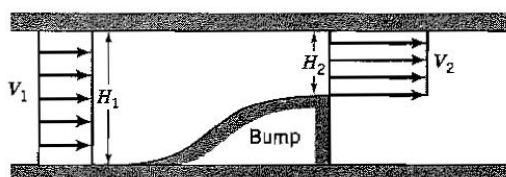

Figure P4.41
4.41 Consider the steady flow of a fluid of constant density in a duct of constant width w . The fluid flows smoothly up a bump, as shown in Figure P4.41, and then separates such that the streamlines are initially straight and parallel. Determine the magnitude and the direction of the horizontal component of the force exerted by the fluid on the bump in terms of the density ρ , the inlet velocity V_1 , the inlet height H_1 and the width w , given that the pressures and velocities at stations 1 and 2 are uniform across the heights H_1 and H_2 , and that $H_1/H_2 = 2$.